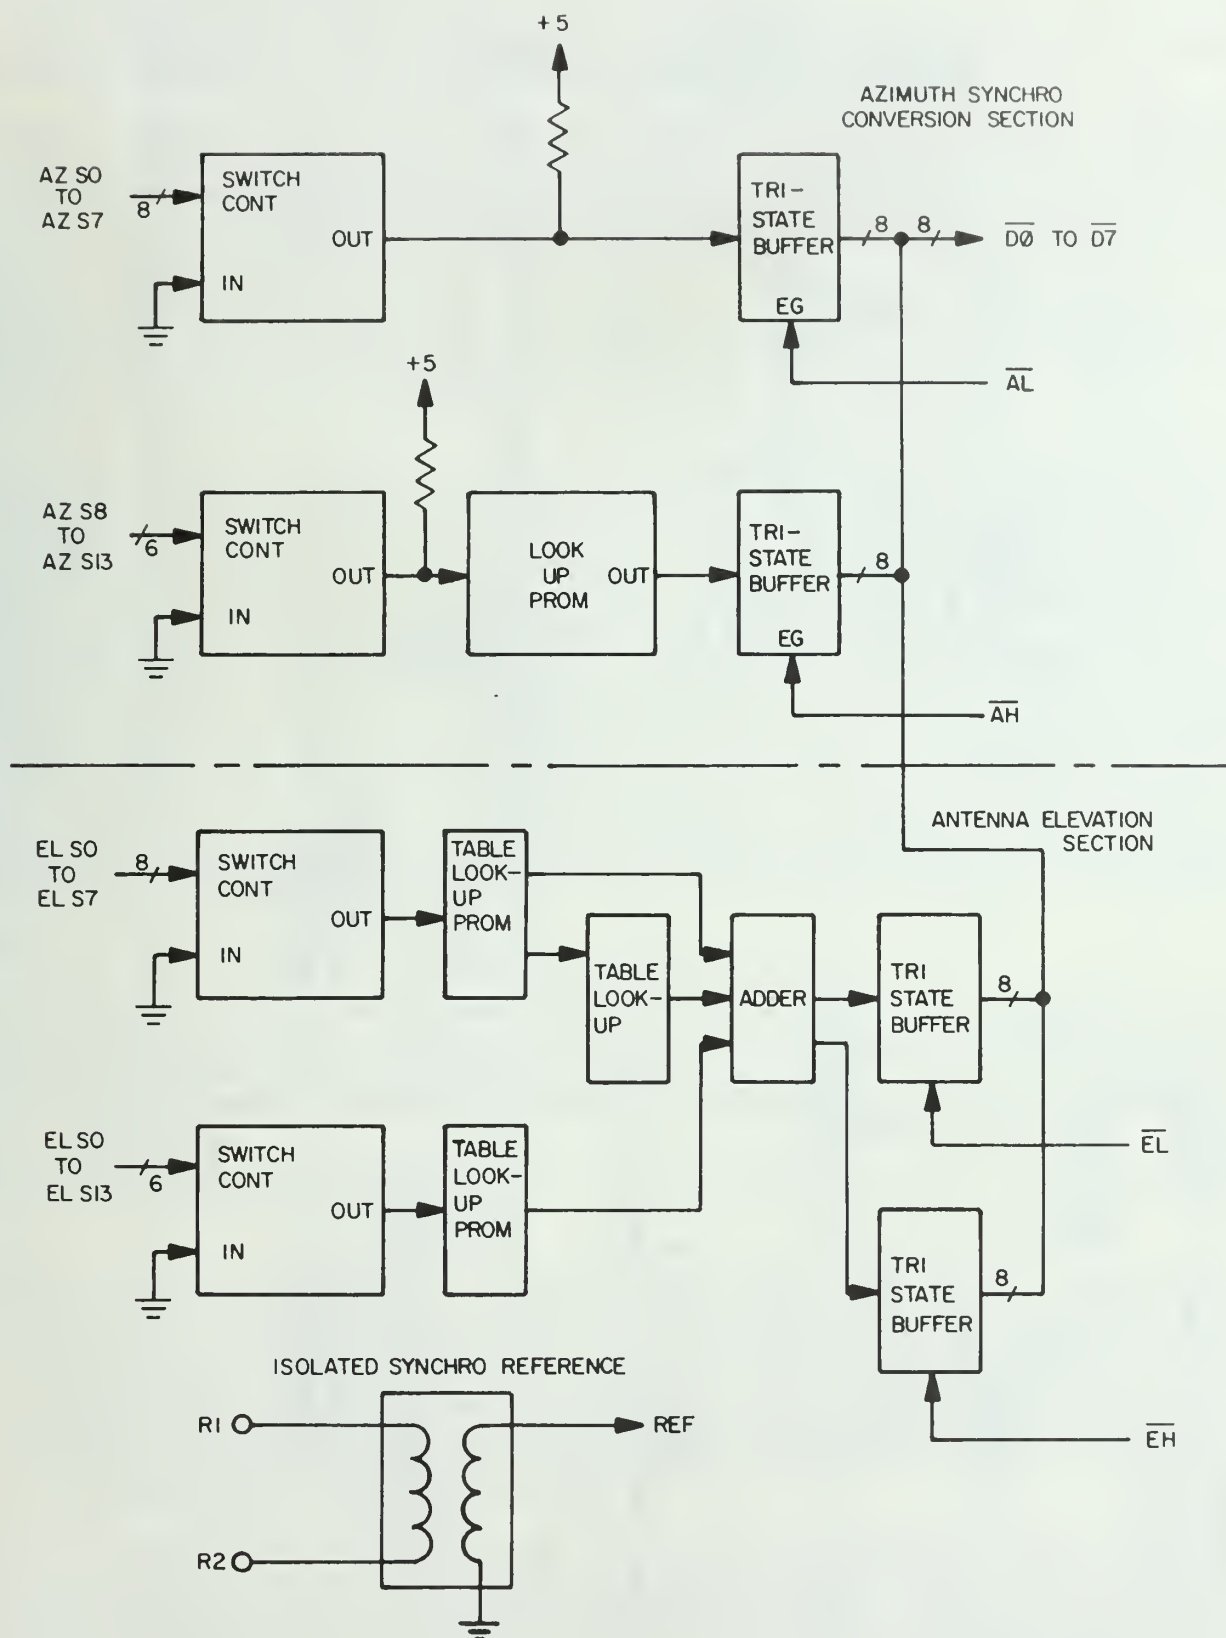

Figure 2-5. Synchro Output CCA N1A2A5, Block Diagram
### **2.3.6 Synchro Output CCA N1A2A5 Functioning. (See figure 2-5)**
**2.3.6.1** Figure 2-5 shows a block diagram of the synchro output board. It is divided into two sections. One section is for the azimuth synchro information; the other section is for the antenna elevation. Also, the isolated synchro reference transformer is contained in the board.